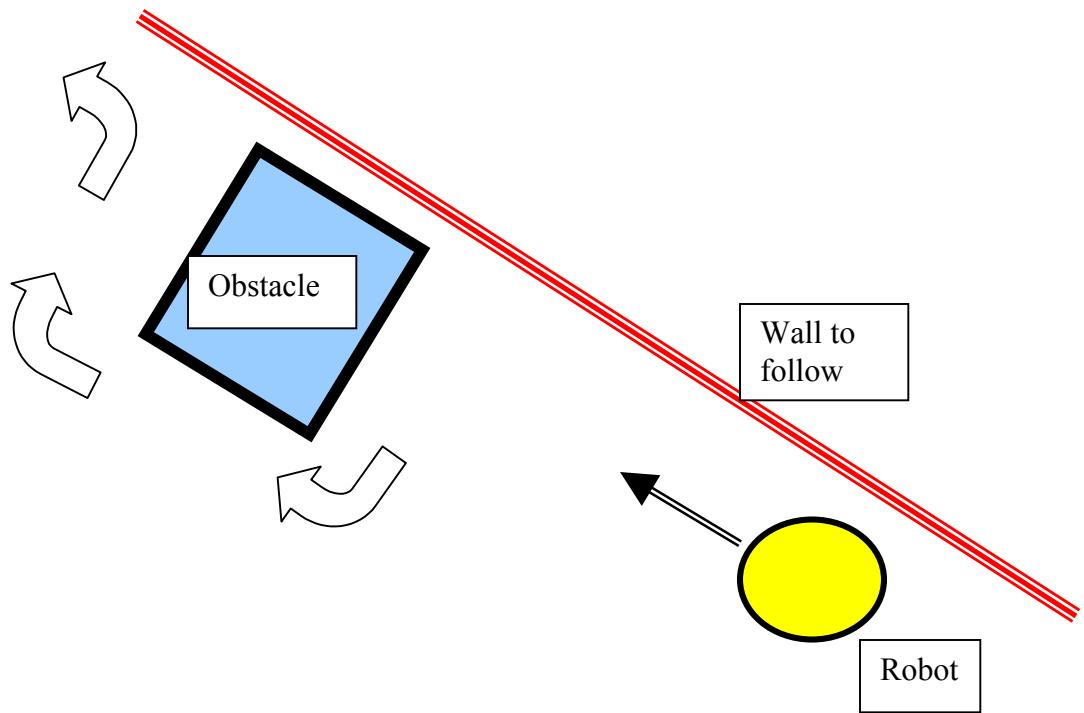

Figure 1. Wall following and obstacle avoidance.
- 5- Write a program to enable the mobile platform to perform the task shown in Figure 1. Verify the operation of your software by giving the trajectory, followed by the mobile platform, in your report.